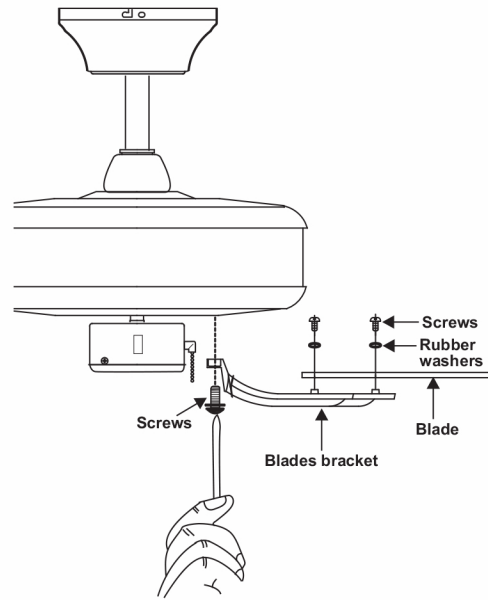

Figure 14
Step 1 Attach the blade to the blade bracket using the screws and rubber washers as shown in Figure 14. Start screw into bracket. Repeat for the two remaining screws.
Step 3 Fasten blade assembly to motor using the screws supplied. (Fig. 14)